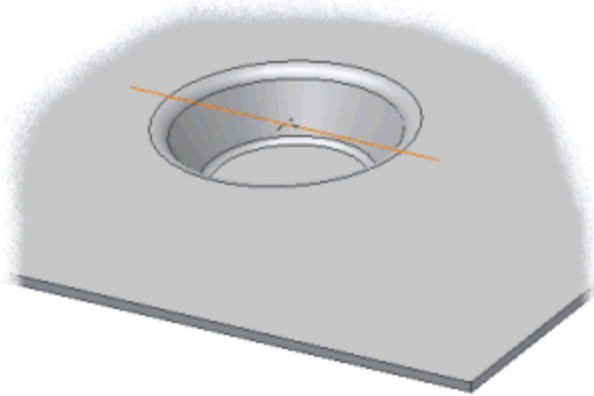

Figure 20: Completed dimple definition.
5. Turn off the visibility of Sketch3 and the work plane. The part should match Figure 20.